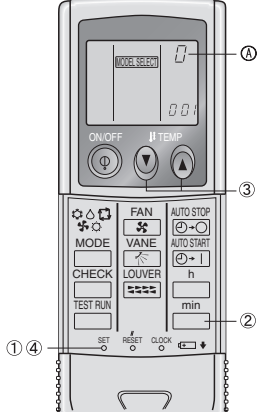

Fig. 6-9
- 3) Assigning a IR wireless remote controller to each unit (Fig. 6-9)
- 4) IR wireless remote controller pair number setting operation (Fig. 6-9)
① Press the SET button with something sharp at the end.